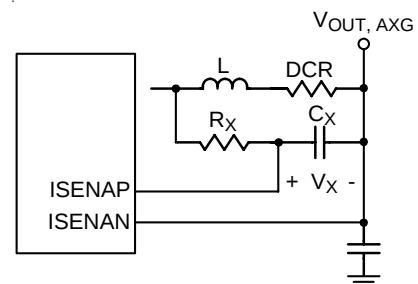

Figure 22. AXG VR : Lossless Inductor Sensing
The current sense topology of the AXG VR is continuous inductor current sensing. Therefore, the controller can be less noise sensitive. Low offset amplifiers are used for loop control and over current detection. The internal current sense amplifier gain (A) is fixed to be 20. The ISENAP and ISENAN denote the positive and negative input of the current sense amplifier. Users can either use a current sense resistor or the inductor's DCR for current sensing. Using inductor's DCR allows higher efficiency as shown in Figure 22. Refer to below equation for optimum transient performance :